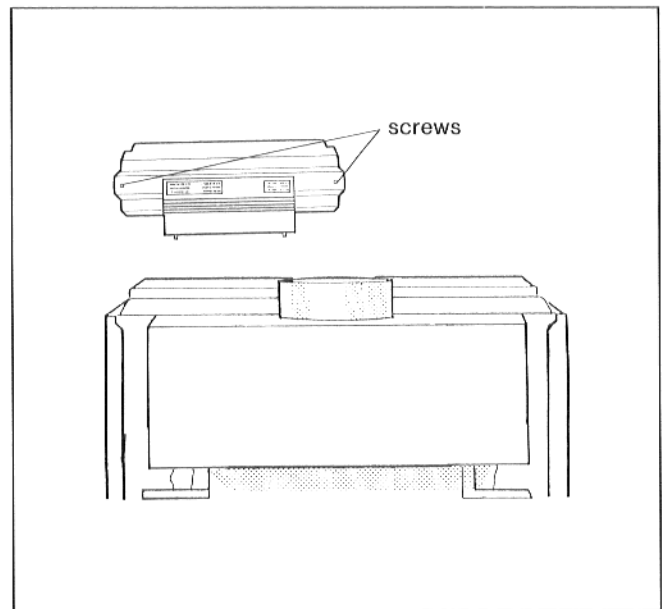

Fig. 34 – Rear view with terminal cover
- Unscrew the two screws in the terminal cover (Fig. 34).